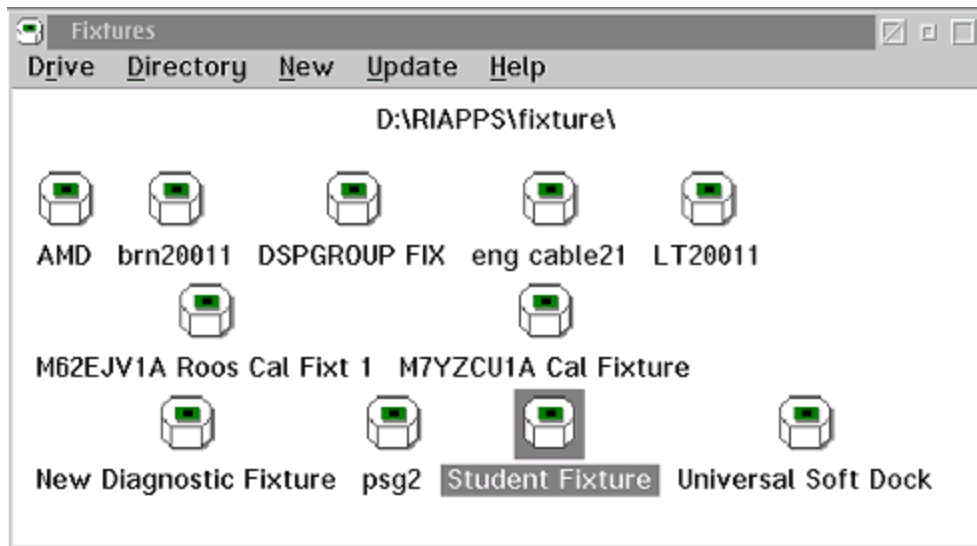

Figure 1
1. From the **Admin Window** select **Test** then **Fixtures**. The **Fixtures** window as shown in Figure 1 will then appear.